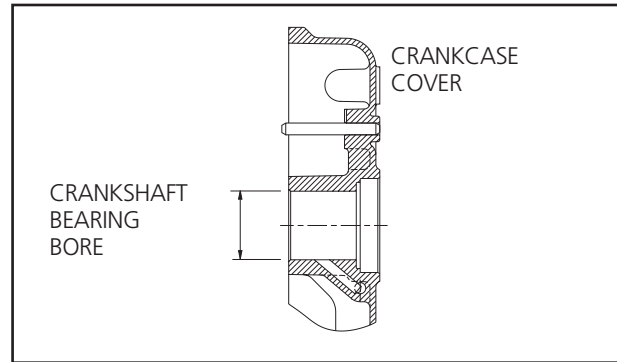

Figure 11.7 — Bearing Bore in Crankcase Cover
2. Inspect the crankshaft bearing bore in the crankcase cover for damage and wear (Figure 11.7).